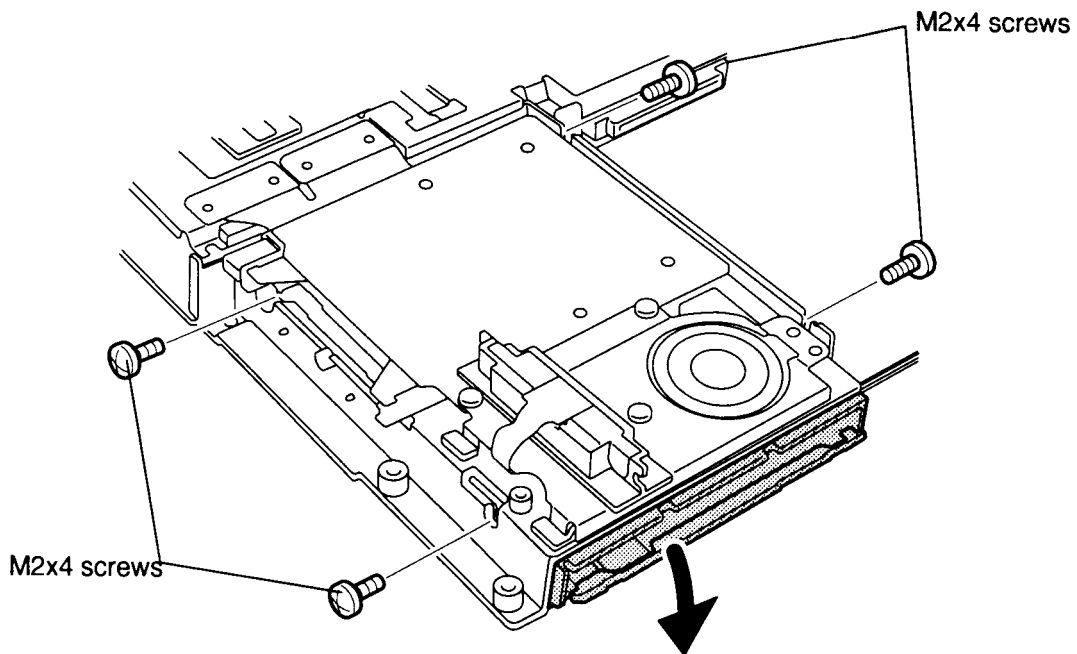

Figure 4-35 Removing the FDD
6. Remove the **four M2x4 screws** securing the **FDD** and lift the base assembly off the FDD (Figure 4-35).
To install the T4850CT's floppy disk drive, follow the steps below and refer to Figures 4-35 back through 4-33.
2. Secure the **FDD** with **four M2x4 screws** (Figure 4-35).